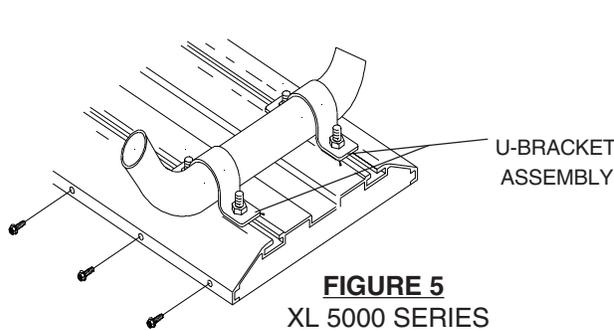

FIGURE 5
- 1) If an XL Series Lightbar is already mounted on the vehicle, remove the speaker cover and then the lens from one end of the lightbar by removing the six (6) screws holding it in place. Figure 5 illustrates three of the screws on one side.
- 3) At the same end, mark the location of the "U" bracket assembly on the lightbar frame (see Figure 5).